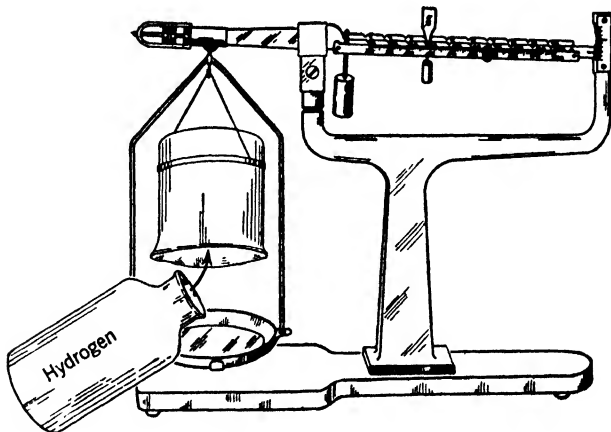

FIG. 5-12.—When hydrogen is poured upward into the inverted beaker on the balance, what happens to that side of the balance beam?
2. By catching some hydrogen in an inverted beaker that has been balanced on a scale. (See Fig. 5-12.) The pan holding the beaker will rise after hydrogen has been caught in it.